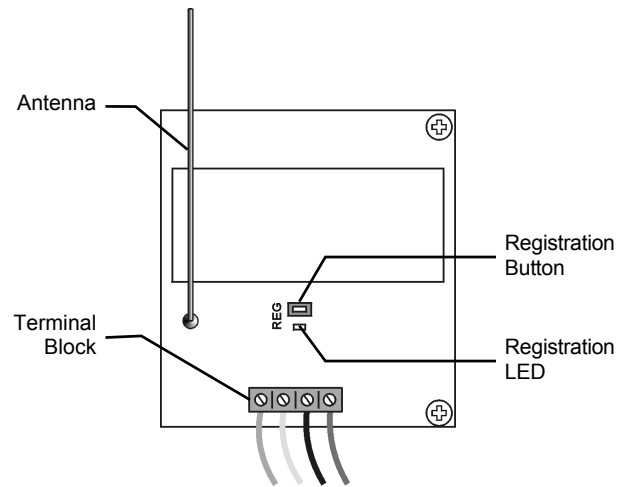

Figure 4: Receiver Circuit Board
8. On the Receiver circuit board, press the Registration button once to set the EL-2626WSM to Registration mode; the Registration LED is lit – see Figure 4.